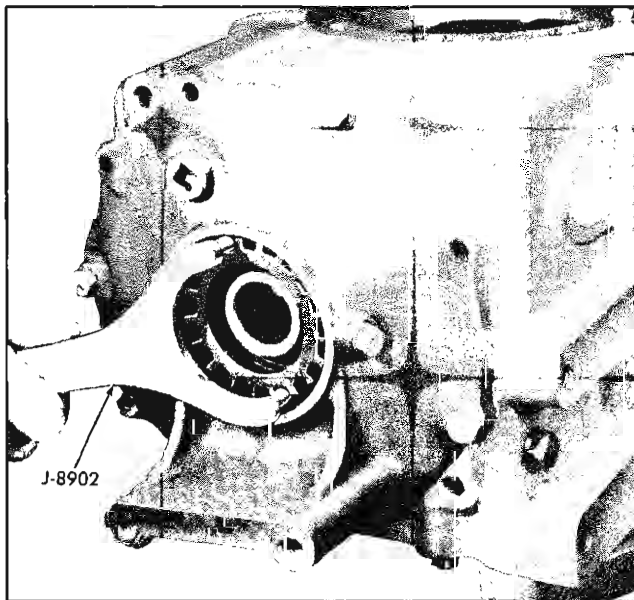
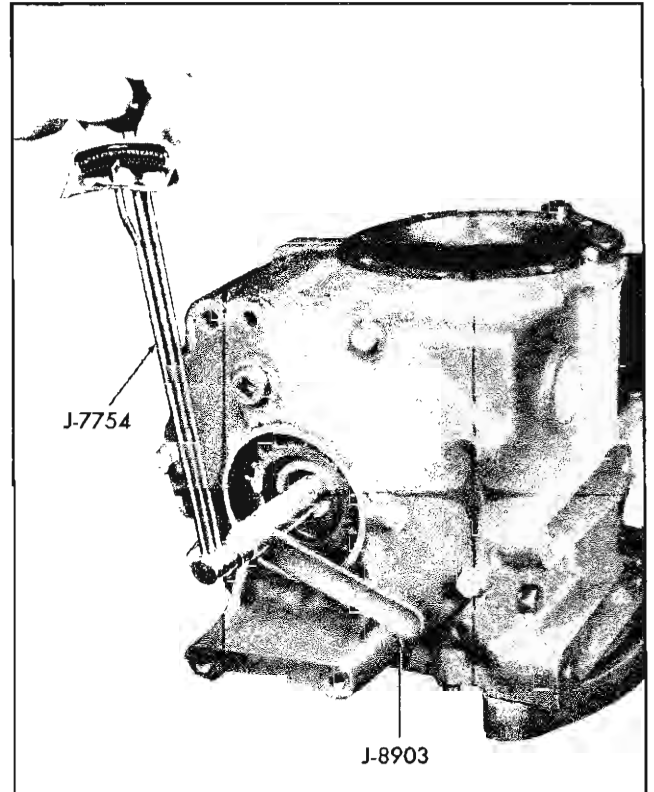

Fig. 4-58 Adjusting Side Bearing Preload
Fig. 4-59 Checking Side Bearing Preload
8. Adjust side bearing preload to 10-20 lb. in. torque by turning side bearing adjusting nut in carrier using tool J-8902 (Fig. 4-58). Check side bearing preload using J-8903 in shaft and J-7754 torque wrench (Fig. 4-59).